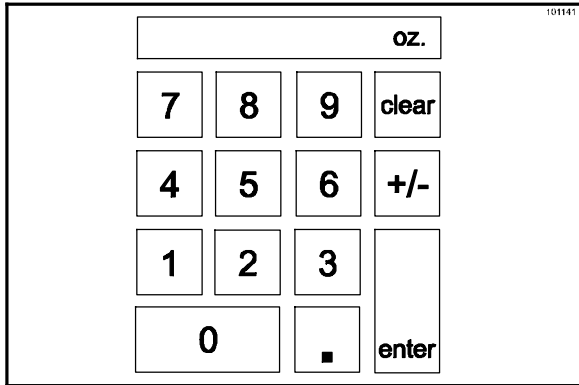

Figure 137
- If the level of water is not within range, remember the weight number and press the NEXT key. Enter the amount of water dispensed, including the decimal point, and press the ENTER key. (See Figure 137.)